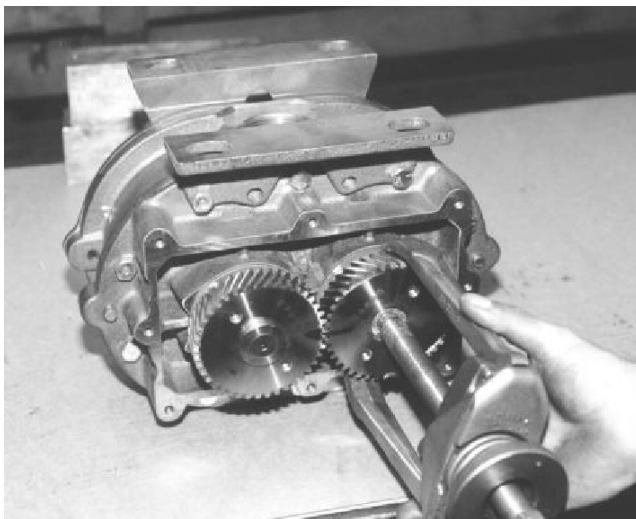

Figure 6. Pulling Drive Gear With Jaw Puller.
- c. Align reference marks and use puller to pull the driven gear. (Gear on right side.) Refer to Figure 6 below.